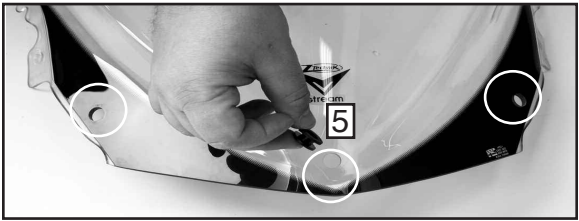

Figure 6
1. Install the Grommets (5) into the front of the VStream Windscreen. **Figure 6**